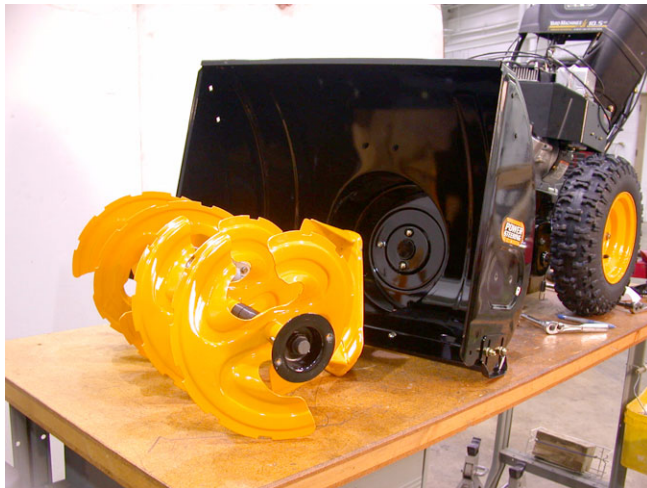

Figure 48
- 17.5. Carefully tip back and remove the housing from the auger assembly. See Figure 48.